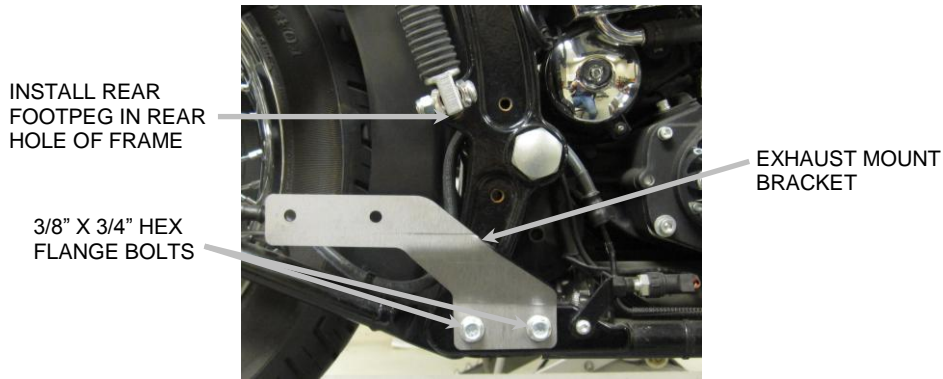

FIGURE 2
5. Remove the right side passenger foot peg from the clevis mount that is attached to the exhaust mount bracket. Remove the clevis mount from the exhaust mount bracket and then the stock exhaust mount bracket from the frame. Install the right side passenger foot peg using the 3/8" x 2-1/2" bolt and the supplied spacer into the rear most hole in the frame. See **FIGURE 2**. Tighten to factory specifications.
6. Remove the plastic hole plugs from the two lower holes in the frame and install the supplied exhaust mount bracket using the supplied 3/8" x 3/4" hex flange bolts. Tighten the bolts to factory specifications. See **FIGURE 2**.